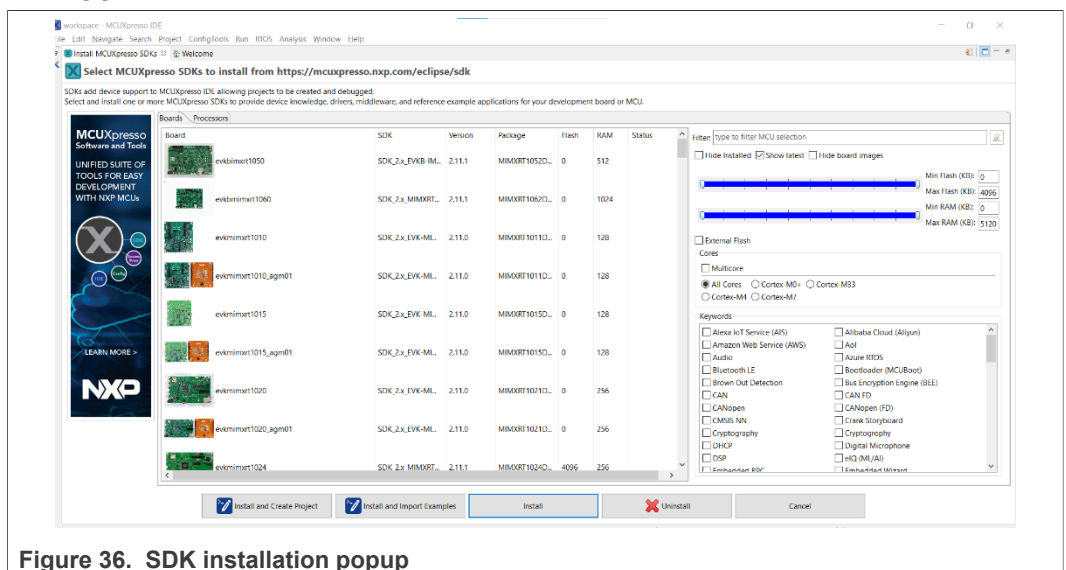

Figure 36. SDK installation popup
3. You see a catalog of all the SDKs that can be downloaded through MCUXpresso, as shown in figure Figure 36. These SDKs provide device knowledge, drivers, middleware, and reference example applications for your development board or MCU.